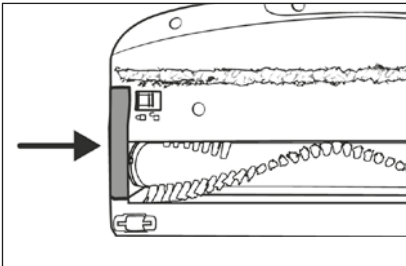

Fig. 27
- 6) Put the rotary brush holder **20** back into the floor brush **22**. Push it down until it audibly clicks into the floor brush **22** (see Fig. 27).